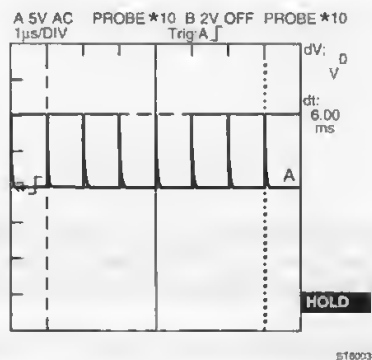

Figure 4.11 Cursor lines on marker pulses
- G Position the cursor lines with the <CURSOR -1-> and <CURSOR 2-> keys, so that they cover a distance of 6 time marker intervals. Position the markers exactly to the top of the marker pulses. See figure 4.11.